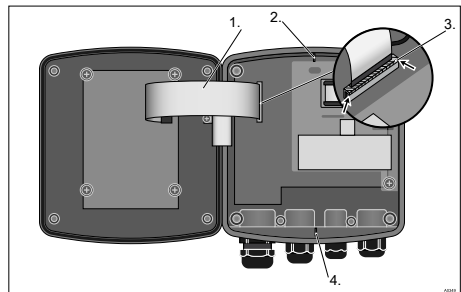

Fig. 42: Loosening the ribbon cable
The base of the ribbon cable is firmly soldered onto the PCB. The base cannot be removed. Open the base lock (3) to loosen the ribbon cable, see Fig. 42